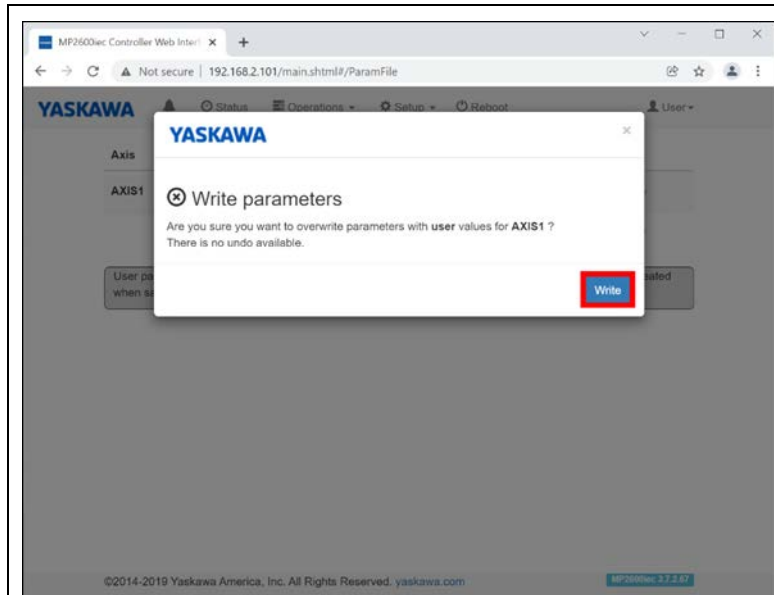

Figure 5-22
- iv. In the 'Write parameters' dialog box press the "Write" button. (Refer to Figure 5-22)